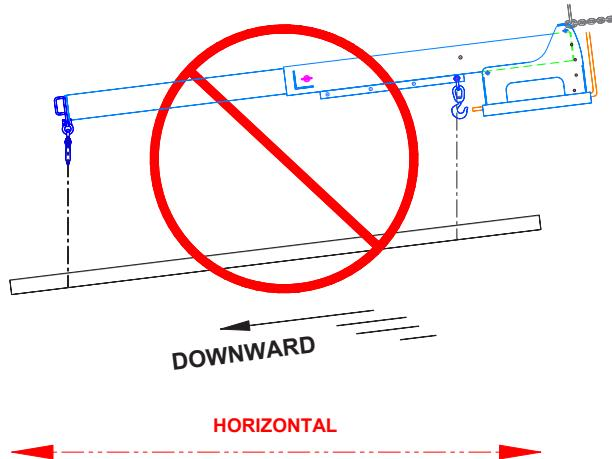

Figure 17
- Do not drive the lift truck forward when the boom, loaded or unloaded, is pointing downward (see figure 17).